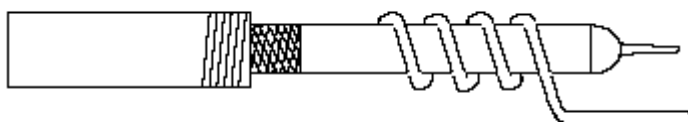

Figure 3. Recommended probe configuration.
3. Use a low loop inductance scope probe across C_{OUT} to measure V_{OUT} Ripple to avoid noise coupling into the probe ground lead. The recommended probe configuration is shown in Figure 3.